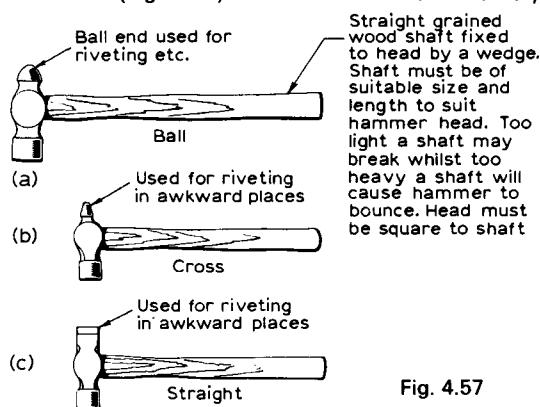

Fig. 4.57
**Hammers** (Fig. 4.57). The masses of hammers vary